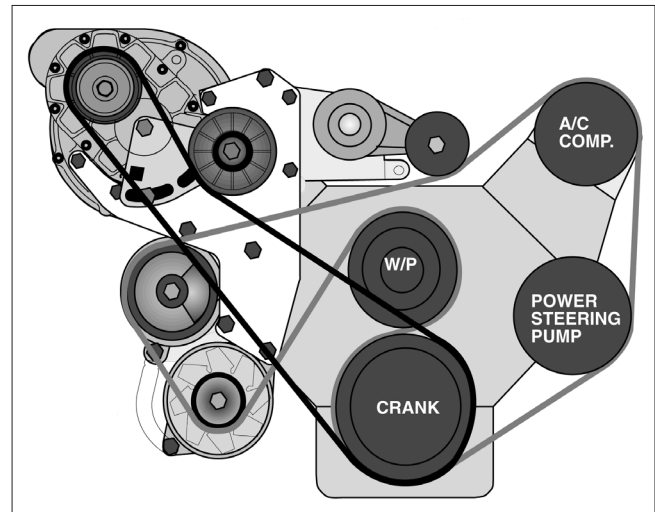

Fig. 1-f
- P. Reinstall the stock accessory drive belt. (See Fig. 1-f.)